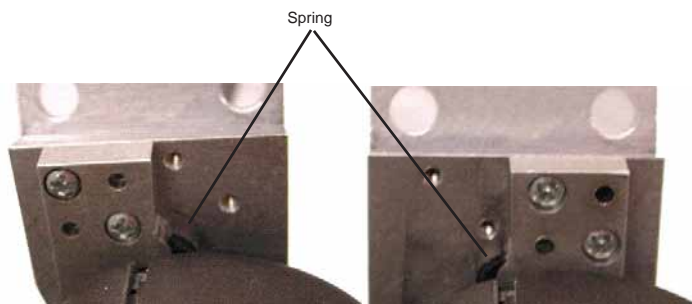

Fig. 7
6. Flip rotation stop over 180°(See Fig 7) Rotate spring to accommodate new stop location.
**Note:** spring location in Fig 7